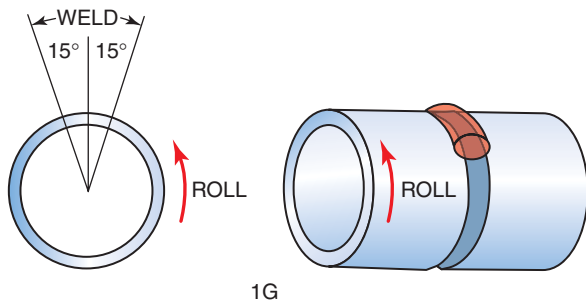

Figure 3.10 Pipe horizontal rolled position
- horizontal rolled 1G—The pipe is rolled either continuously or intermittently so that the weld can be performed within 0° to 15° of the top of the pipe, Figure 3.10.